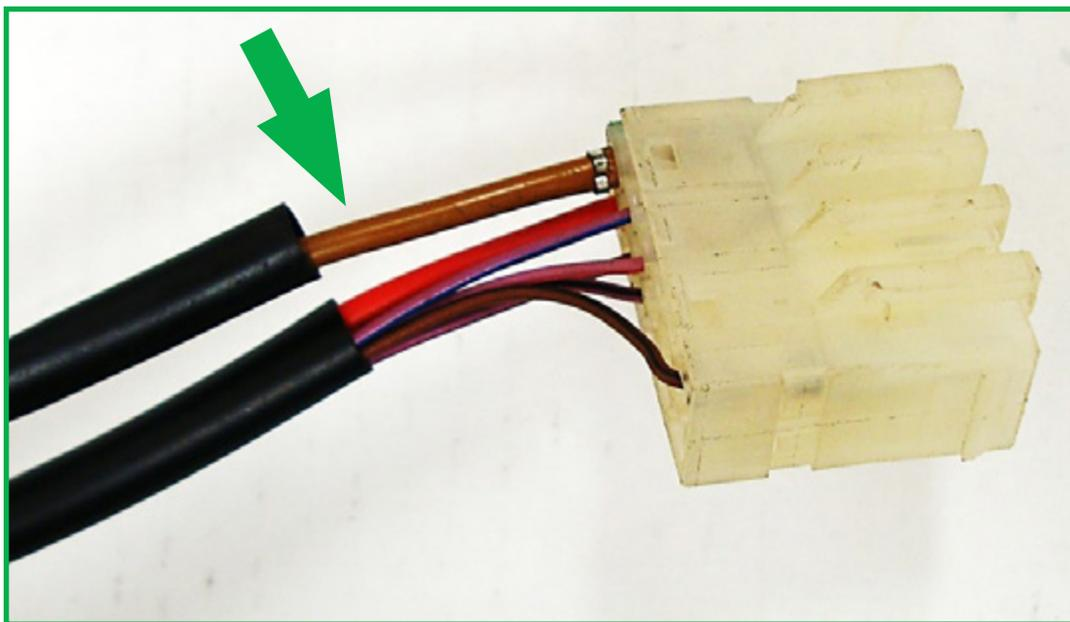

FIGURE 10
8. Remove the pin of brown wire from the motor to the electrical connector. (Figure 10)